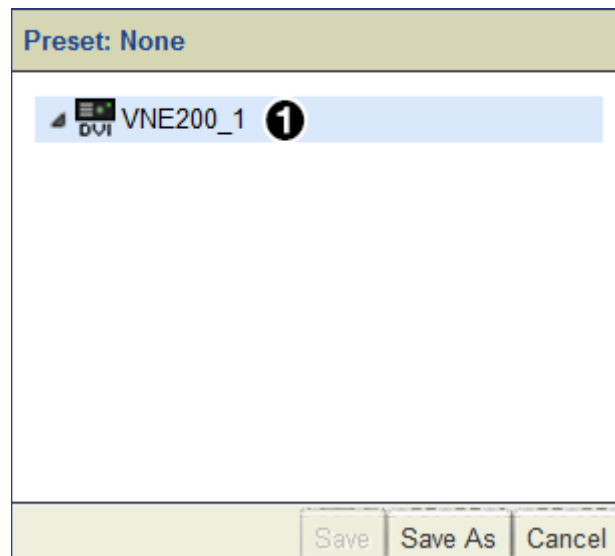

Figure 107. Presets, Drag and Drop an Encoder
2. Drag an encoder from the **Device List** and drop it onto the **Preset** design panel (see figure 107, ❶).